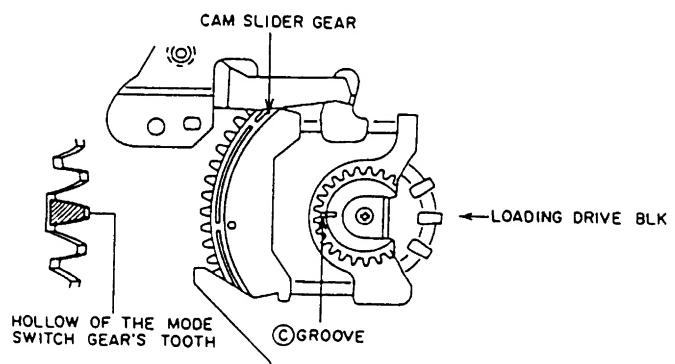

Fig. 3-15
2) Attach the MODE SELECT SWITCH to the LOADING DRIVE BLK. At this time, align the hollow of the gear's tooth (reverse side of the ⑨ mark) with the ⑨ groove of the CAM SLIDER GEAR as shown in Fig. 3-15.